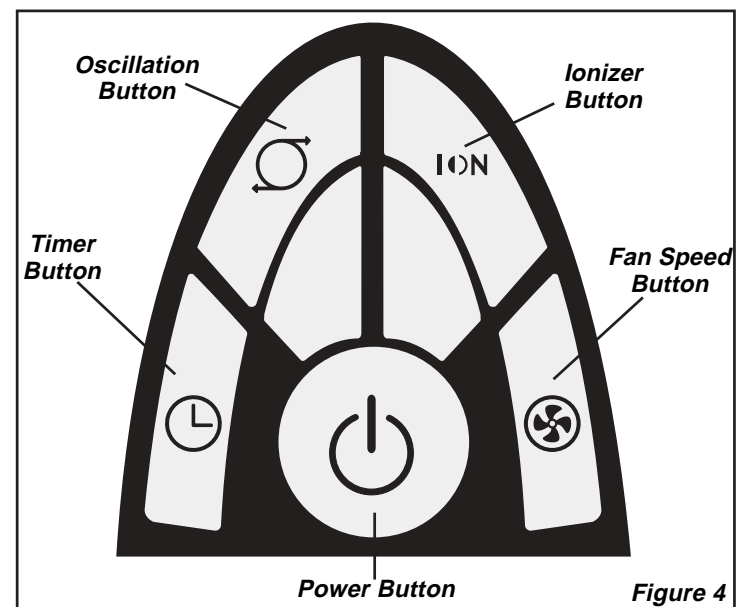
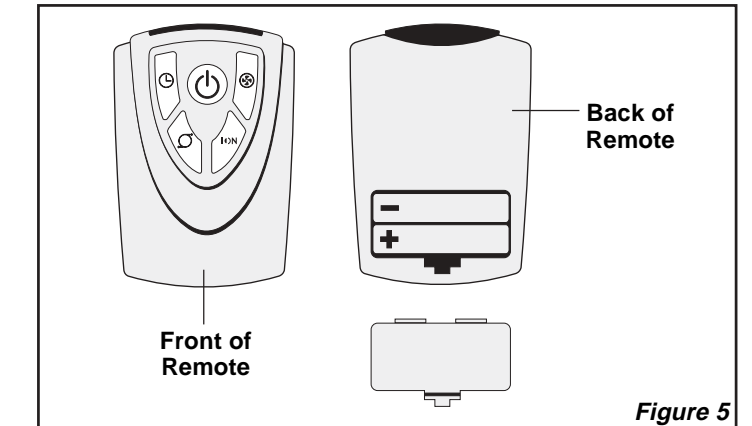

Figure 4
Figure 5
This Fan may be operated by the manual controls located on top of the unit (as shown in **Figure 4**) or by the Remote Control (shown in **Figure 5**).
REMOTE CONTROL (Figures 5 and 6)
1. Install the two "AAA" batteries supplied as shown in **Figure 5**.